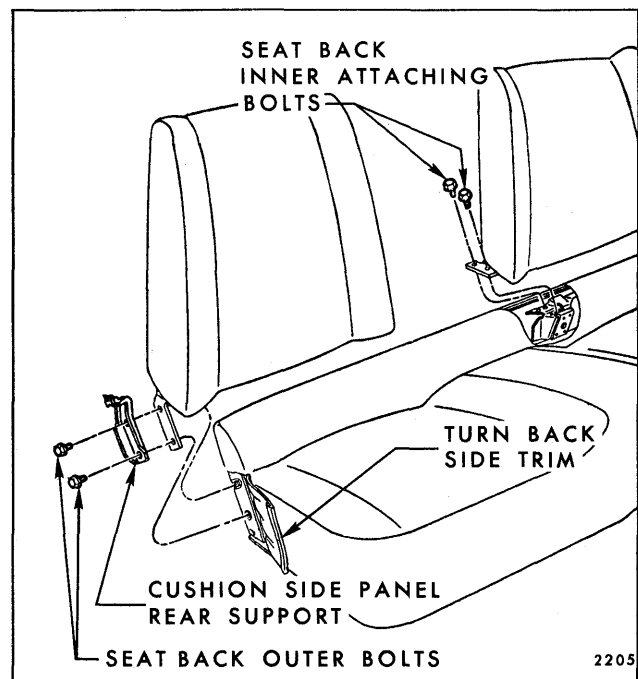

Fig. 10-23—Strato Full Width Seat Back Attachment
2. At side of seat from which seat back is being removed, remove hog rings securing cushion side trim at rear of seat and fold trim forward sufficiently to expose two seat back outer attaching bolts (Fig. 10-23).
5. To install seat back assembly, reverse removal procedure. Make certain seat side panel support (Fig. 10-23) is secured under seat back outer attaching bolts.
2. Remove seat side panel on side from which seat back is being removed. Remove hog rings securing seat cushion trim side facing at rear of seat and turn side facing forward sufficiently to expose seat back outer arm attaching bolts (See Fig. 10-23).
4. Remove seat back outer arm attaching bolts (Fig. 10-23).